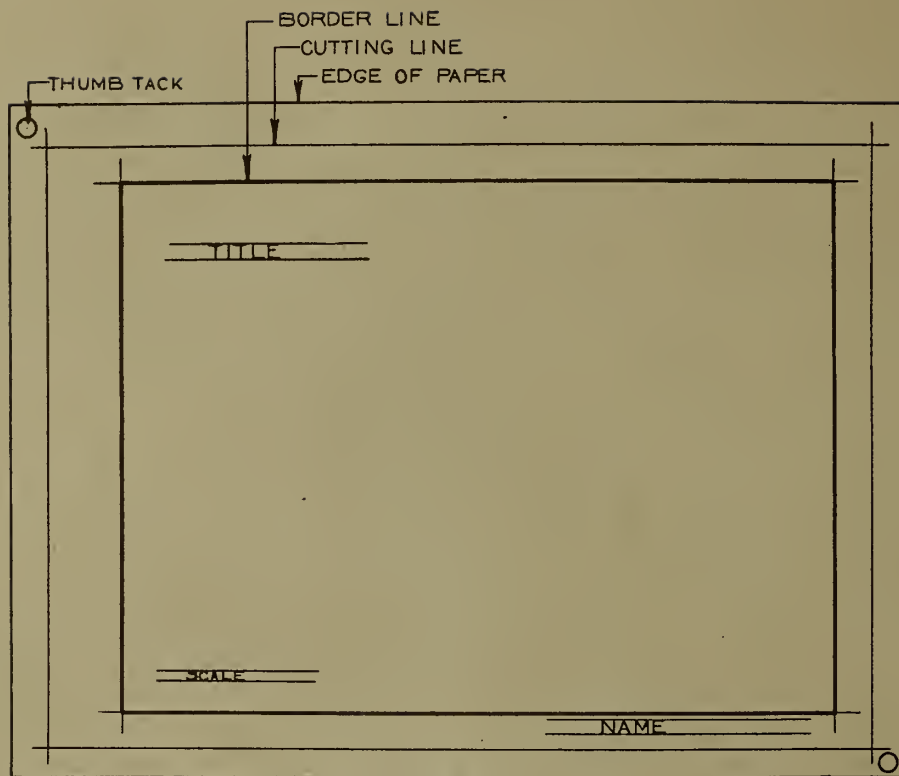

FIG. 1
All drawing sheets are to have cutting lines, border lines, the name of the object, the scale, and the name of the owner of the drawing. The name of the object drawn and the name of the owner are to be printed in letters  $3/16''$  high. The scale will be in letters  $1/8''$  high. Place them as shown in Fig. 1.
paper. These lines give border and cutting lines, and there remains only the going over the border line a second time with pressure on the pencil to make it "stand out," Fig. 1.
7. Print your name in its proper place. See Fig. 1.
7. Put on lettering, Fig. 1, and figures.